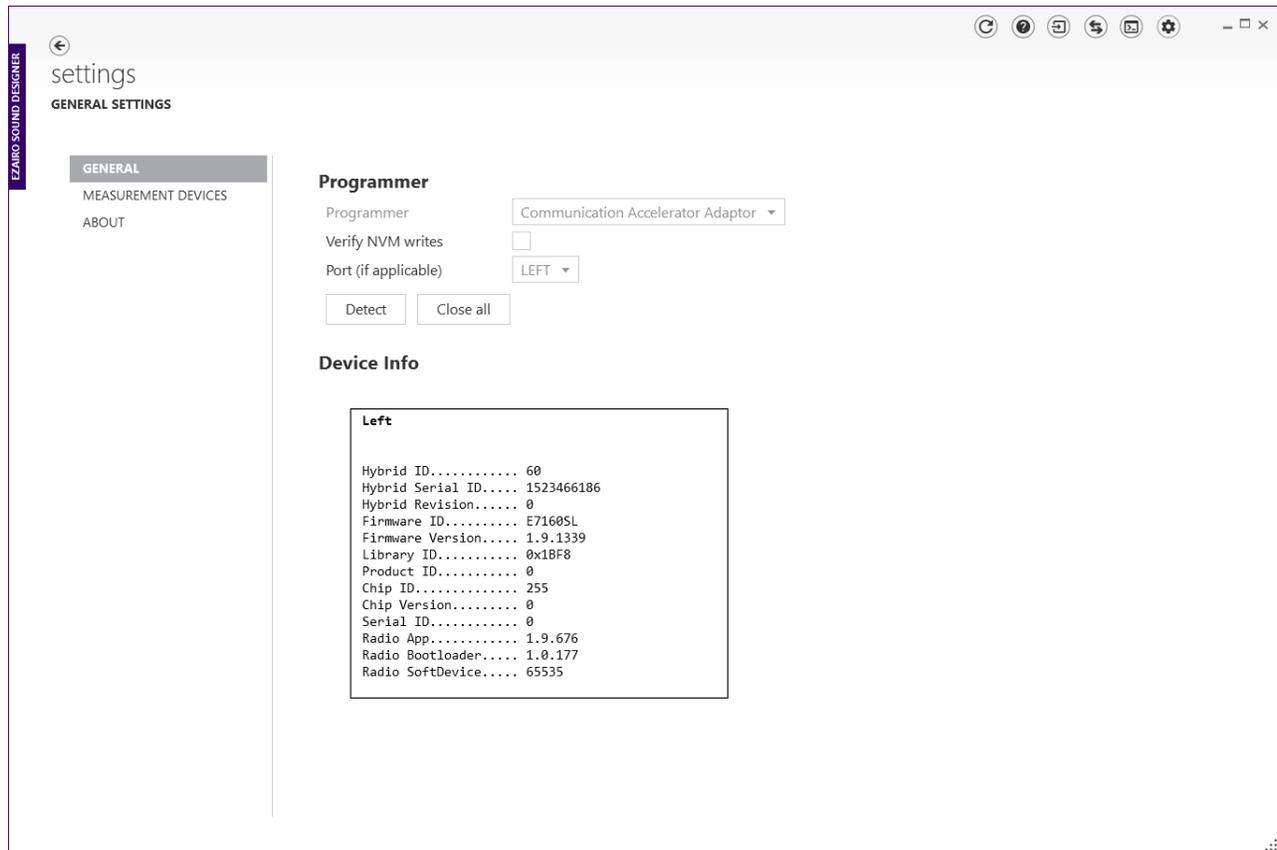

Figure 9. Detecting the Device
- To connect to the device, go to the **Settings** screen. Select the correct **Programmer**, and **Port** if applicable. Next, click **Detect**. A successful detection populates the device information in the **Device Info** box, as shown in the figure "Detecting the Device" (Figure 9).